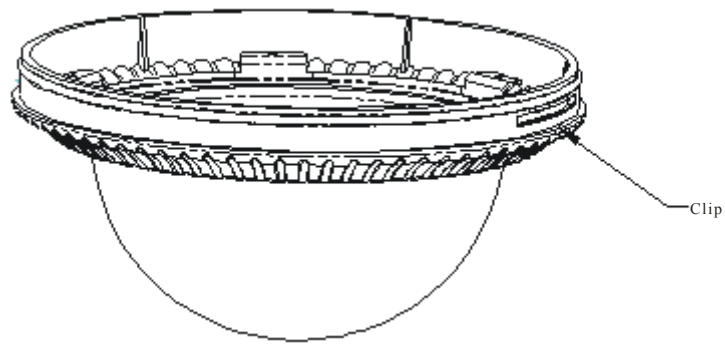
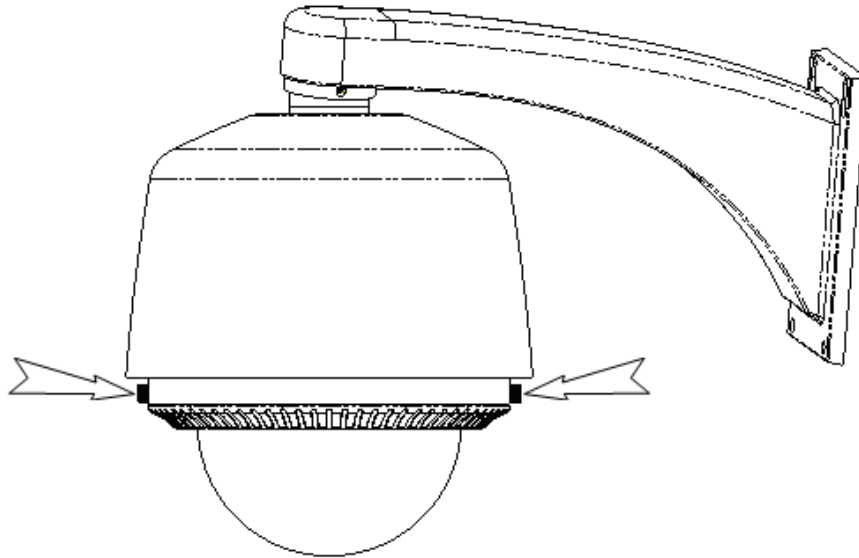

Figure 1.2.18 Install Bubble
Figure 1.2.19 Tighten the Set Screws
6. Install the bubble by aligning the two grooves (see Figure 1.2.18) on the trim ring of the bubble with the two set screws (see Figure 1.2.19) on the back box, and then fasten the set screws to secure the bubble.